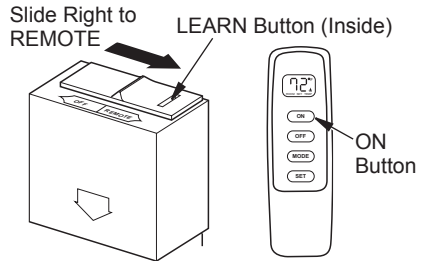

Figure 9 - Receiver and Remote Control Setup
1. Set receiver selector switch to the remote position (see Figure 9).
2. Push the ON button on hand-held remote control. You should hear a beep. If not, use a dull object to push the LEARN button in the receiver (see Figure 9). Push the ON button on remote control once again. You may hear a series of beeps.